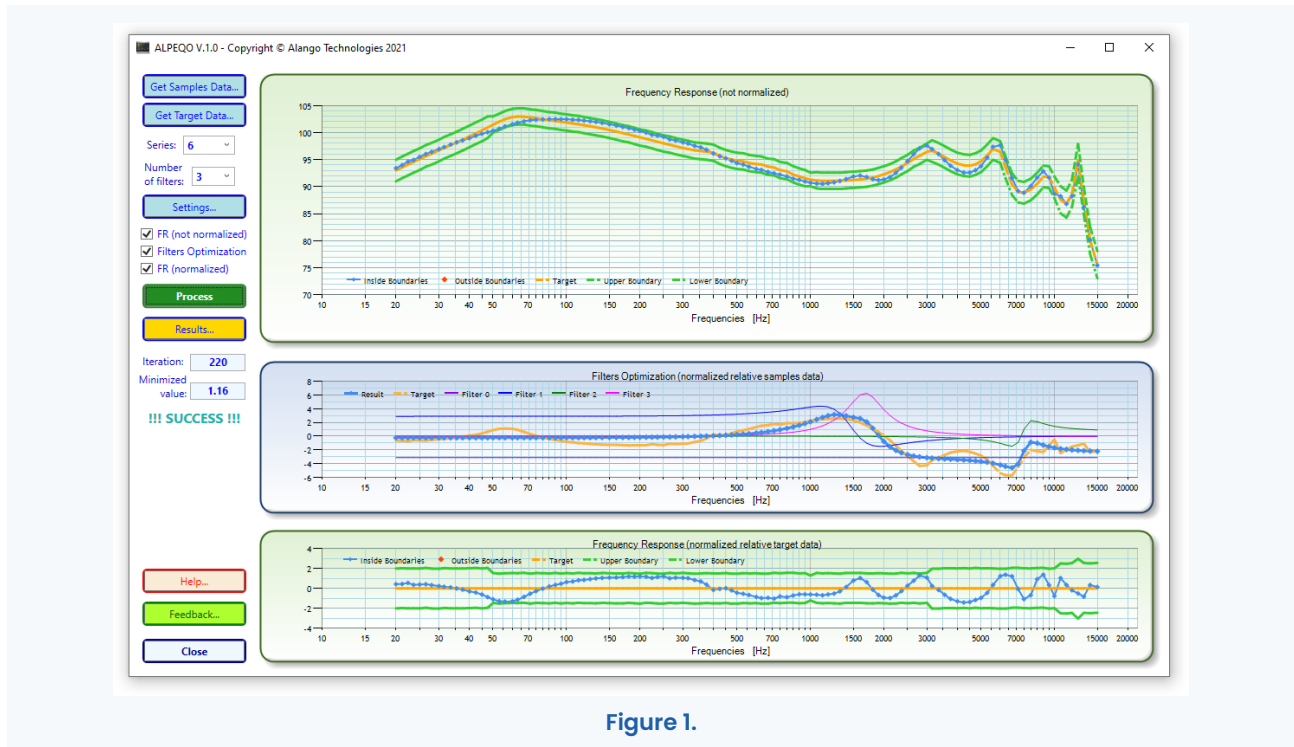

Figure 1.
**Alpeqo Lite** is the Windows application for solving the problem described in section 1 and section 2. The main window of this application is shown below (see Figure 1).
**Figure 1** demonstrates these three charts after an optimization task is finished.